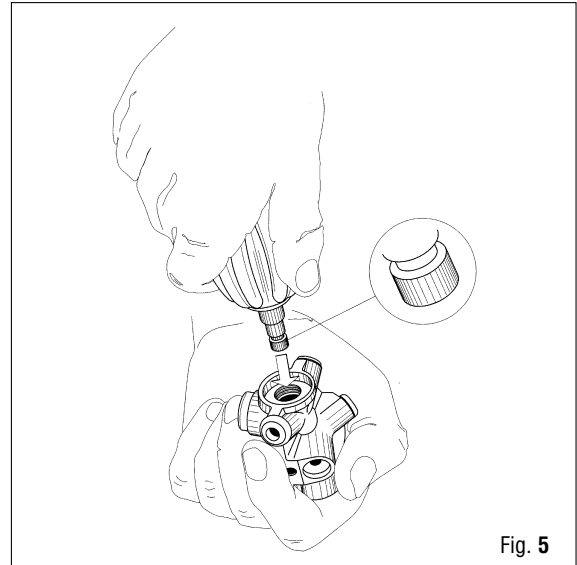

Fig. 5
19. Use the First Stage seat assembly tool (B39) to insert the seat connector (114) (Fig. 5).